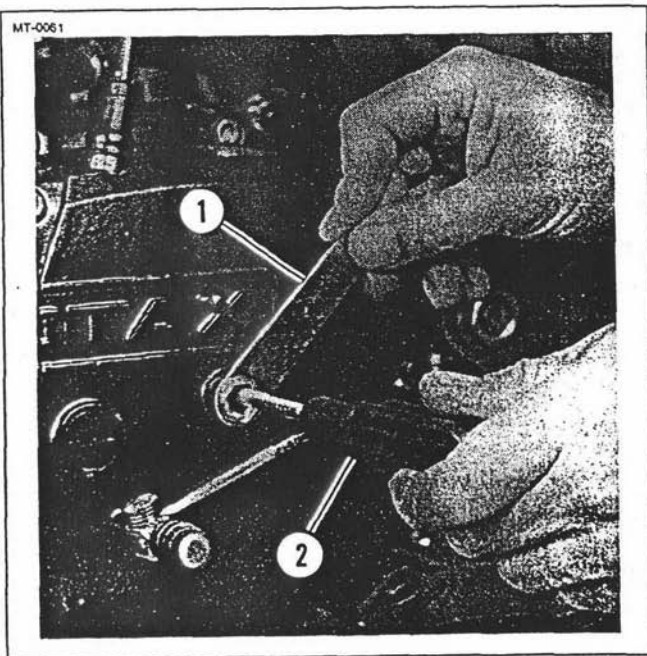

Figure 5-31. Adjusting Clutch Cable
3. See Figure 5-31. Place clutch adjusting wrench (1) from vehicle tool kit onto lock nut accessible through screw plug hole. Hold adjusting screw with flat tip screwdriver (2) and loosen lock nut.